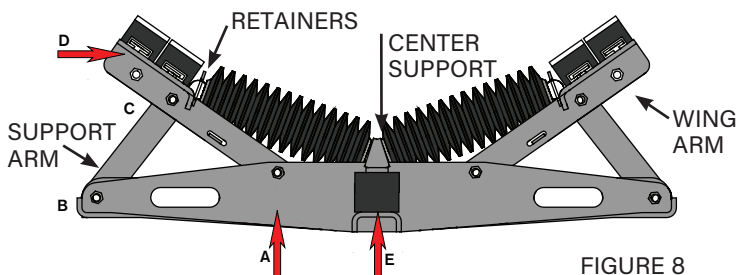
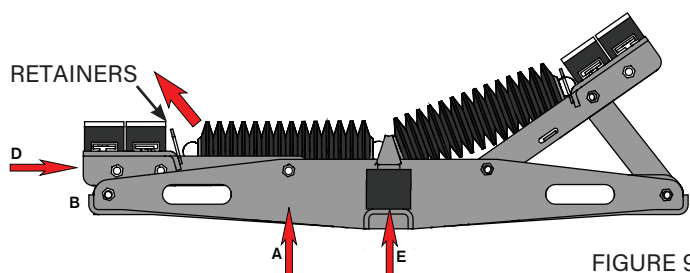
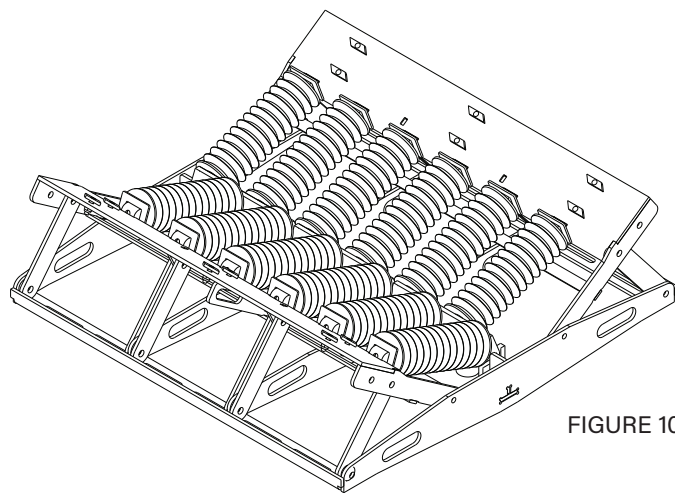

FIGURE 8
FIGURE 9
FIGURE 10
The Slider Rails will need to be replaced when the belt has worn through the white plastic and is showing the black rubber beneath. Typically the Slider Rails are replaced with the Wing Arm in the lowered position as shown in figure 9. Depending on the amount of room around the Trougher Impact System or other it may be possible to change the Slider Rails with the Wing Arm is in the raised position as shown in figure 8.
1. Loosen the T-Bolt nuts under the Wing Arm near D as shown in figures 8 and 9. Once the nuts have been loosened, the T-Bolt will turn $\frac{1}{4}$ of a turn and release the rail. Rotate the T-Bolt a $\frac{1}{4}$ of a turn. The T-Bolt will line up with the slot that runs the length of the Slider Rail allowing the slider rail to lift off the Wing Arm.
2. To reinstall the Slider Rail, line up the T-bolts as shown in figure 10 on the Wing Arm as shown in figure 9. Fit the Slider Rail over the T-Bolts. Then push the T-Bolts up into the rail slot and tighten. The T-bolts should be tightened to a torque of 10 to 20 ft-lbs.
1. Remove the nuts and lock washers located under the Wing Arm near D as shown in figures 8 and 9. Once the bolts have been removed the Slider Rails along with the T-Bolts can be lifted off the Wing Arm.
2. To reinstall the Slider Rail, first install the T-Bolts into the holes in the Wing Arm and line them up as shown in figure 10. Fit the new Slider Rail over the top of the T-Bolts. Then push the T-bolts up into the slot of the Slider Rail and tighten. The T-bolts should be tightened to a torque of 10 to 20 ft-lbs.